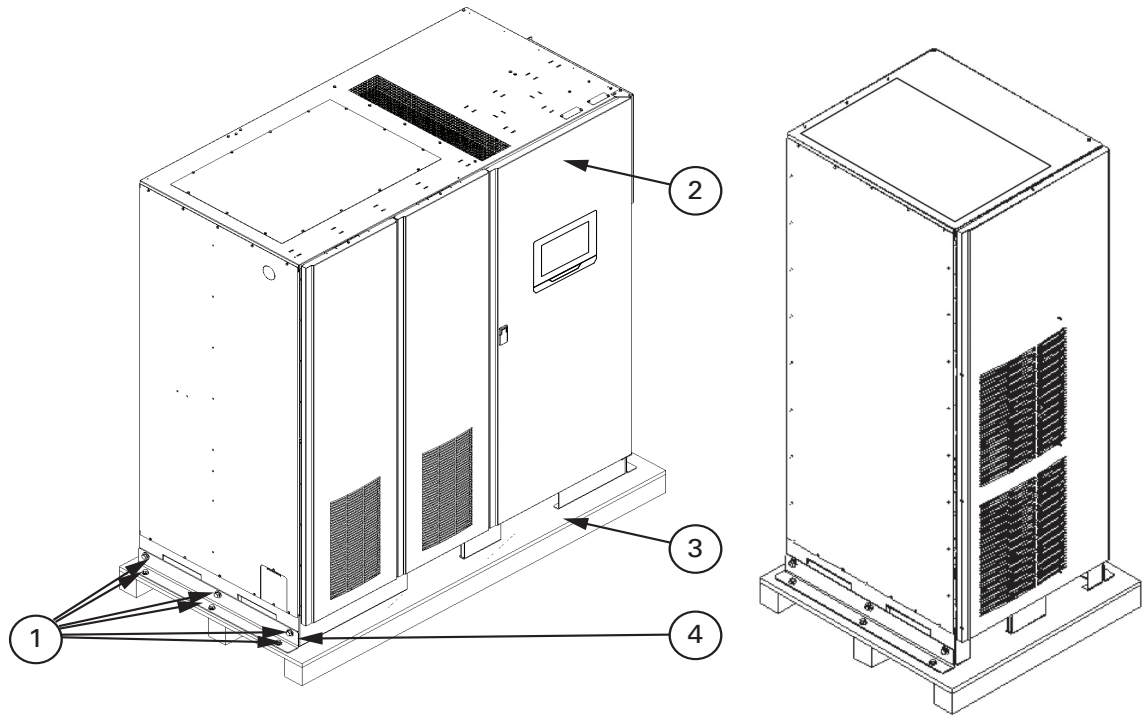
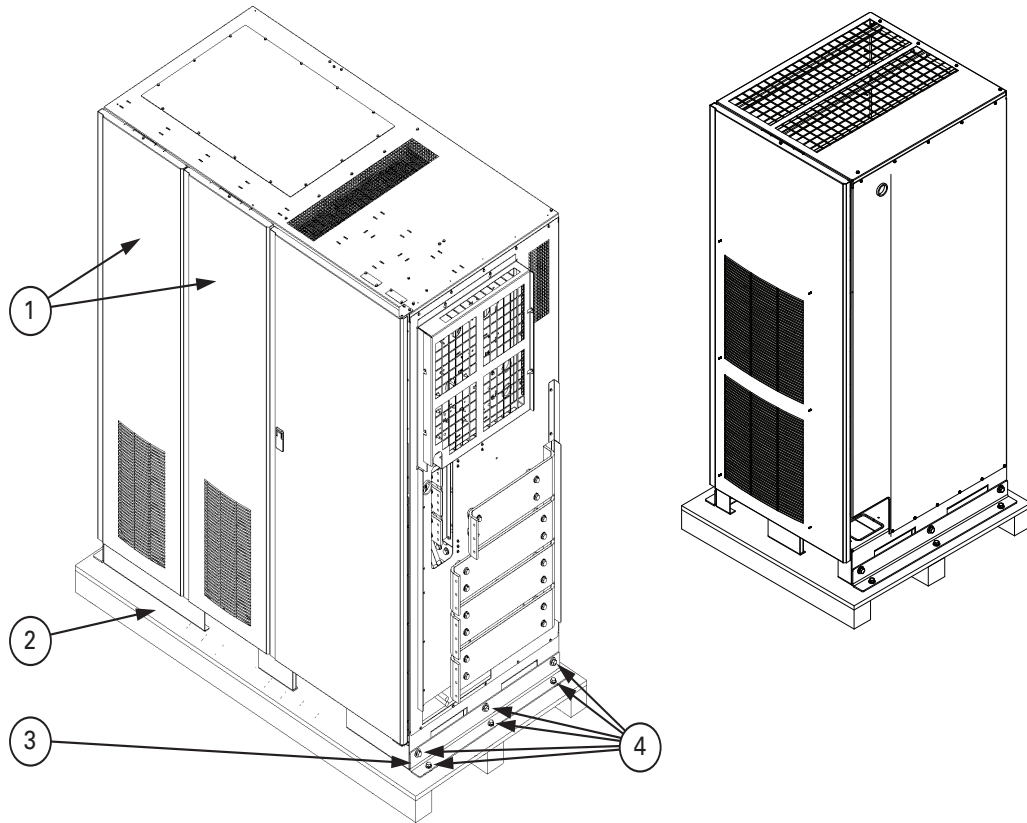

Figure 4-1. Removing left side shipping bracket, ISBM and FI-UPM
Figure 4-2. Removing right side shipping bracket, ISBM and FI-UPM
2. Remove the three bolts securing the left side shipping bracket to the cabinet and three bolts securing the bracket to the pallet (see Figure 4-1 and Figure). Remove the left shipping bracket. If permanently mounting the cabinet, retain the shipping bracket and securing hardware for later use.
10. Using the retained hardware, reinstall the shipping brackets removed in Steps 2 and 3 to the left and right side of the cabinet with the angle facing outward (see Figure 4-1 and Figure 4-2). This can be done only after all FI-UPM, ISBM and 3xUPM mechanical connections are made (see Section 4.3).
2. Remove one top screw and two bottom screws securing the UPM section wireway panel (see Figure 4-1 on page 31). Lift the panel straight up to remove it from the panel hanger brackets at the top of the cabinet.
4. Remove the screws securing the corner holder and remove the corner holder (see Figure 4-2). Retain the hardware for later use.
5. Remove the screws securing the left top panel and remove the panel (see Figure 4-2). Retain the hardware for later use.
6. Remove the screws securing the left middle panel and remove the panel (see Figure 4-2). Retain the hardware for later use.
8. Reinstall the left front corner holder (see Figure 4-1) and secure using the retained hardware.
9. Reinstall the left middle panel (see Figure 4-1) and secure using the retained hardware.
10. Reinstall the left top panel (see Figure 4-1) and secure using the retained hardware.
1. Unfasten the front door latch and swing the door open (see Figure 4-1 on page 31).
AC and DC input intercabinet power wiring harnesses are supplied coiled and secured in the UPM wireway on the left side of the UPM section (see Figure 4-1 on page 31).
AC output intercabinet power wiring harnesses are supplied attached to the interior left side panel of the UPM section (see Figure 4-1 on page 31).